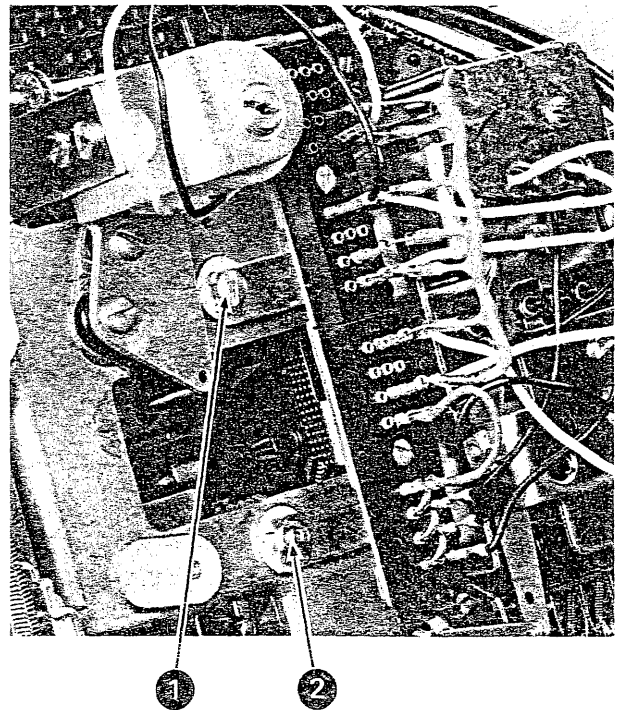

Figure 4-46. Operational-Magnet-Assembly Removal (Steps 6 and 7)
6. Remove the mounting screw (No. 1, Figure 4-46).
7. Remove the nut (No. 2, Figure 4-46), and carefully remove the magnet assembly.